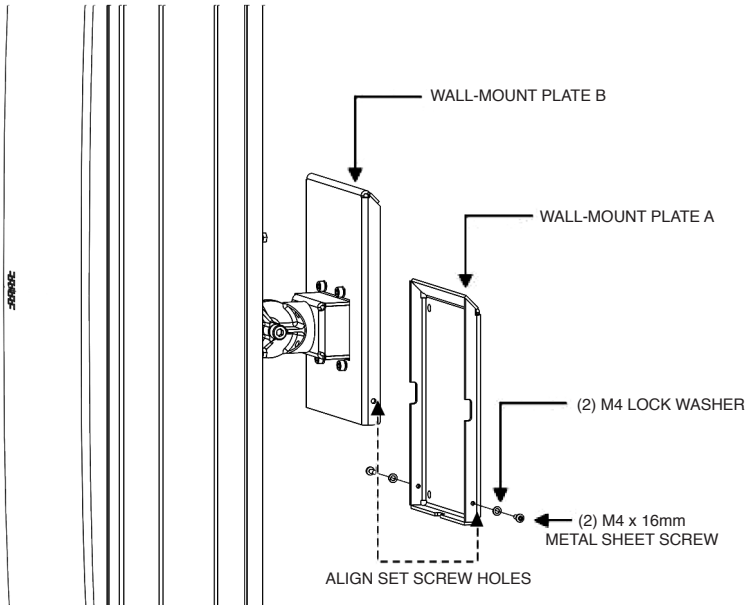

Figure 7, Hanging Loudspeaker
9. Align the screw holes on the sides of Wall-Mount Plate A with those on Wall-Mount Plate B and secure them using two M4 sheet metal screws with lock washers. Tighten each screw to 18 in-lbs. (See **Figure 7**.)